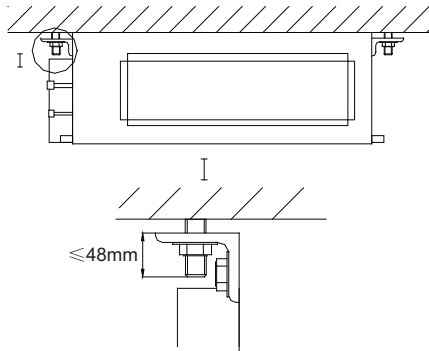

Fig. 28 - Install the indoor unit
3. Install the indoor unit on the ceiling, as shown in Fig.28.